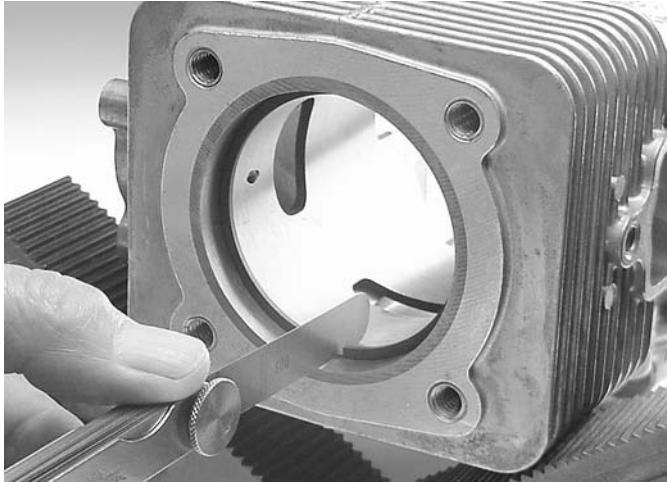

Fig. 33
2. Use a feeler gauge to check ring end gap as shown in figure 33. Replace ring set if gap is more than .030 (0.76mm)